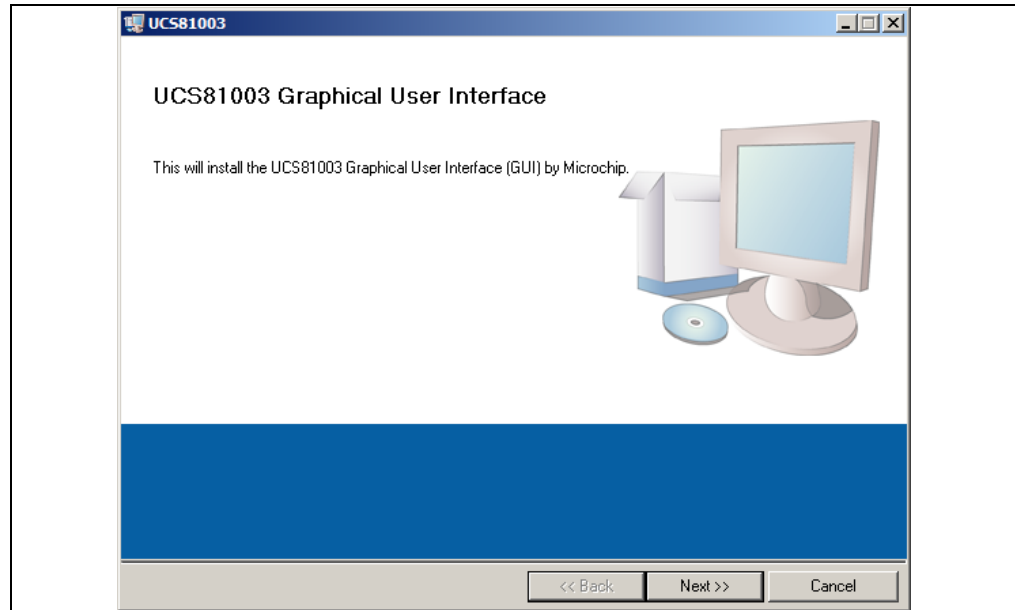

FIGURE 2-6: Software Installation – Initialize Window.
1. Download the software archive for UCS81003 Evaluation Board from the board's web page, unzip it and double-click the `Setup.exe`, to start the installation. Figure 2-6 shows the initial installation screen, which displays briefly as the setup program loads.